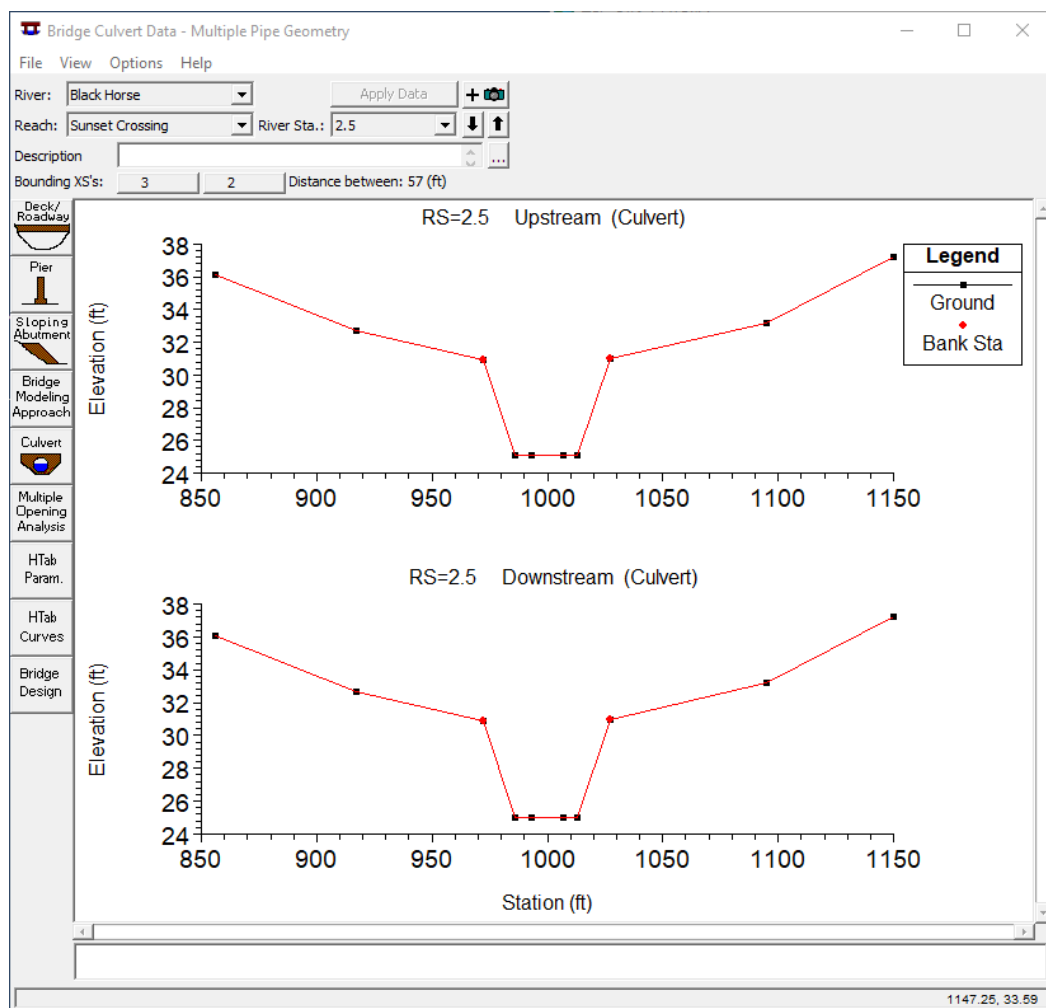

Figure 6. Bridge and Culvert Data Editor
- A. **Press the Bridge/Culvert Data Editor Button.** Pressing this button will bring up the bridge and culvert data editor as shown in Figure 6 (except it will be blank at first).
- B. **Select Add a Bridge and/or Culvert from the Options menu.** When this is selected, the program will ask for the river station of the culvert crossing; enter a value of 2.5. This will place the bridge between cross sections 2 and 3. Figure 6 shows the cross sections when they first come up in the editor.